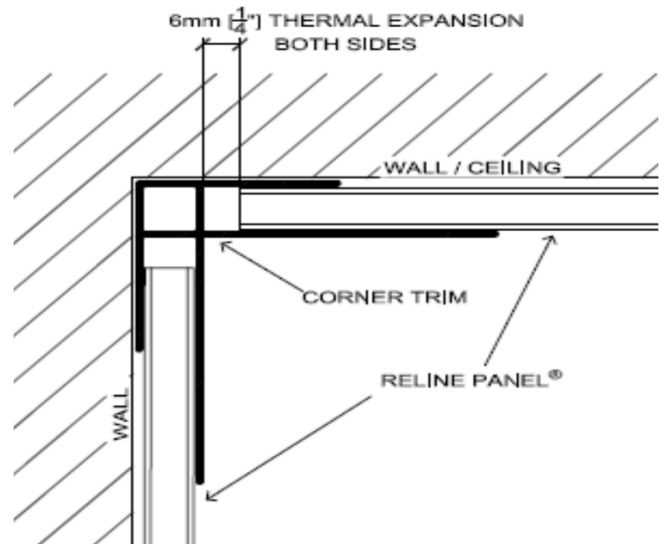

Figure 2. Inside 90° Corner Trim Installation
- Miter corners as required. Provide ¼" clearance at ends and sides of panels, as required. Refer to Figure 2.